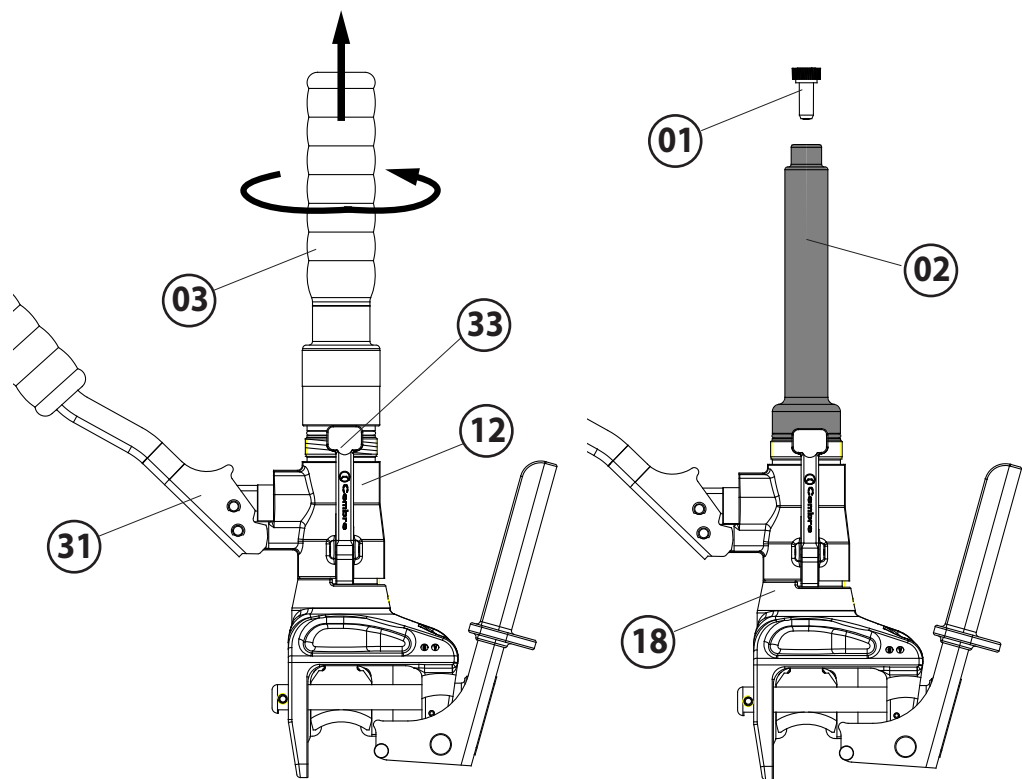

FIG. 6 TOOL POSITION FOR MAINTENANCE OPERATIONS
4.1) To purge air bubbles from hydraulic circuit (Ref. to Fig. 6)
- Hold tool upright in a vice with the moveable handle (31) open (Fig. 6).
- Unscrew the main handle (03) from the body (12) to expose the rubber oil reservoir (02).
- Remove reservoir cap (01).
- Operate moveable handle (31) several times, in order to advance the ram (13).
- Press the pressure release lever (33) to retract the ram (13), discharge oil pressure from the circuit and return all oil to the reservoir.
- Remove all air from reservoir and fit cap (01).
- Assemble main handle (03) to tool body.